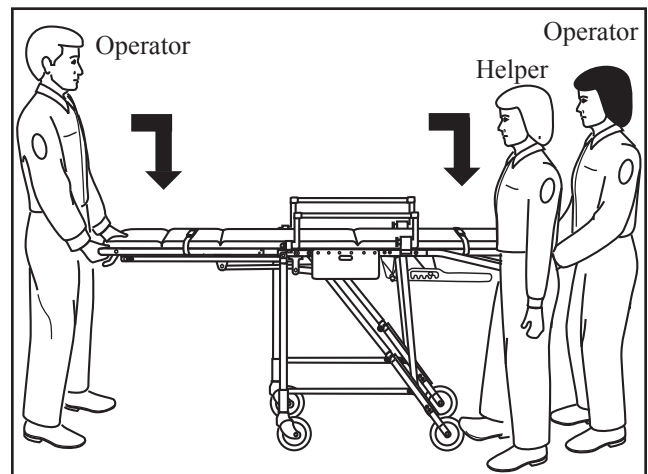

Figure 8 - Folding the Cot With a Patient On It
3. **Helper:** Stand next to the head end of the cot, facing the foot end. Place your foot firmly against the nearest transport wheel to prevent the cot from moving forward when the operators begin folding it (Figure 8).